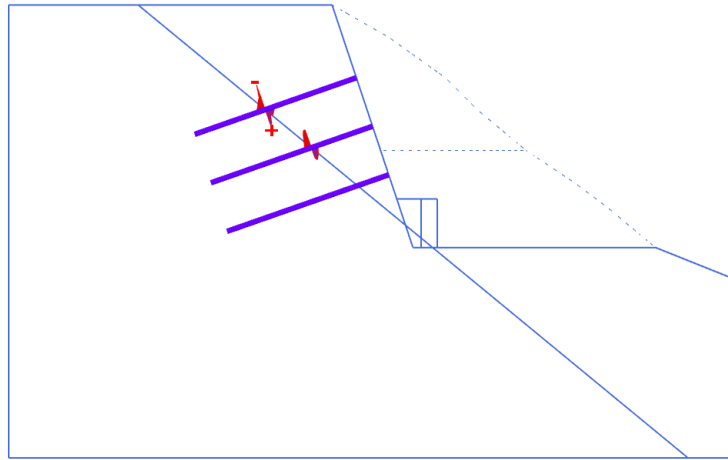
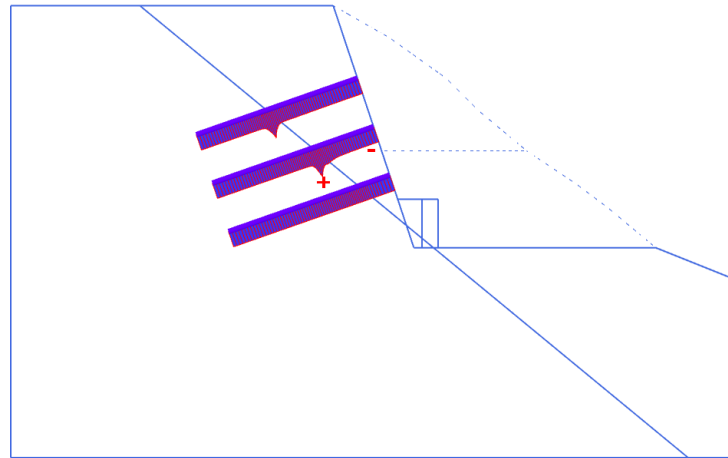

Figure 4-17: Resulting shear force in the bond $T_{s,bond}$ after backfilling
Figure 4-18: Axial forces in the cables after backfilling
- 4 From the **Forces** menu, select the $T_{s,bond}$ option to view the shear force developed in the grouted segments as displayed in Figure 4-17 \(p. 88\).
- 5 Again from the **Forces** menu, select the **Axial forces N** option as shown in Figure 4-18 \(p. 88\).
Figure 4-17 \(p. 88\) and Figure 4-18 \(p. 88\) illustrates that the axial forces are considerably intensified at the intersection of cables and the fault, where the shear force in the bond also develops. The cable forces are mobilised when the rock face moves along the discontinuity. However, after the installation of the third cable there is no further movement of the rock face so the forces in the lower cable is not mobilised. The main function of the lower cable is to contribute to a higher factor of safety rather than to limit the movement of the rock face under normal conditions.